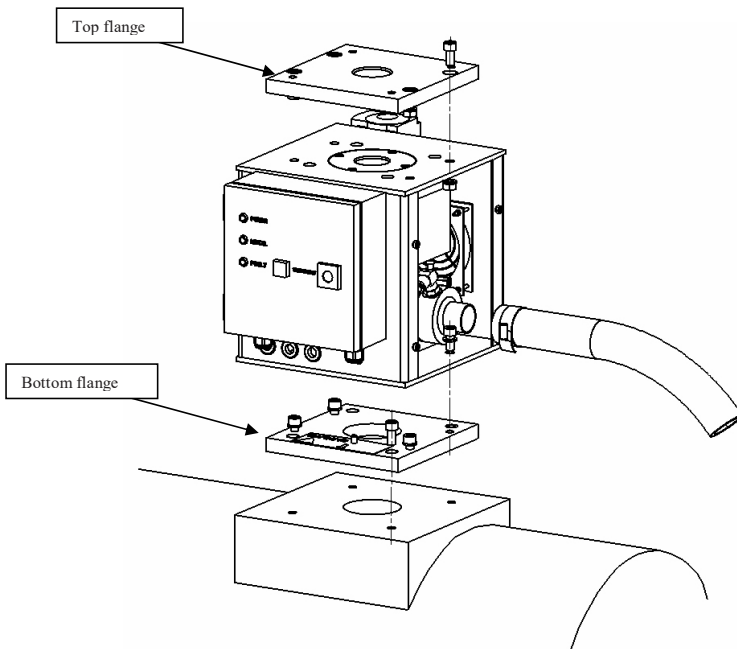

Figure 8
1. Drill and counter bore bottom flange to match bolt pattern or plastic machinery. Counter bore must be deep enough so that the screw is below flange surface. (See figure 8)